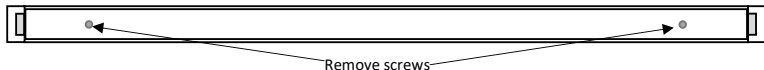

Fig. 1 (single fitting shown)
- Unfasten the two screws (see Fig. 1) and remove the cover plate